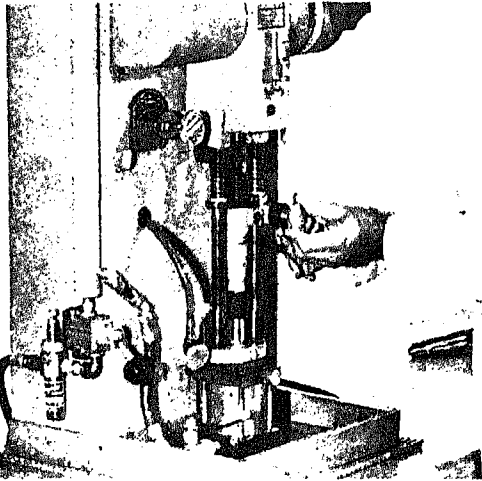

Fig. 6-1-50. Fuel inlet connector
9. Fuel is delivered to the injector through the inlet connection. Fuel pressure here is controlled at this point by connecting line and pressure regulator. Fig. 6-1-50.